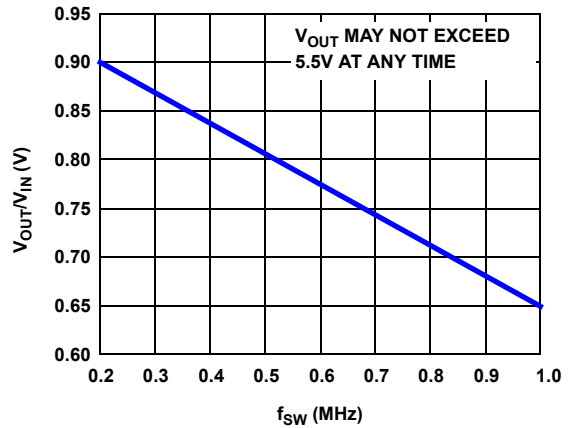

FIGURE 8. MAXIMUM CONVERSION RATIO,  $T_J \leq +125^\circ\text{C}$
- Refer to Safe Operating Area in Figure 8 and thermal design guidelines in AN2010.
- Percentage of Full Scale (FS) with temperature compensation applied.